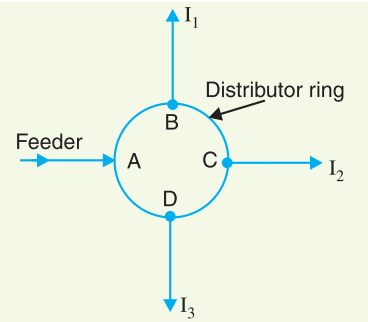

Fig. 13.4
- (iv) **Ring mains.** In this type, the distributor is in the form of a closed ring as shown in Fig. 13.4. It is equivalent to a straight distributor fed at both ends with equal voltages, the two ends being brought together to form a closed ring. The distributor ring may be fed at one or more than one point.